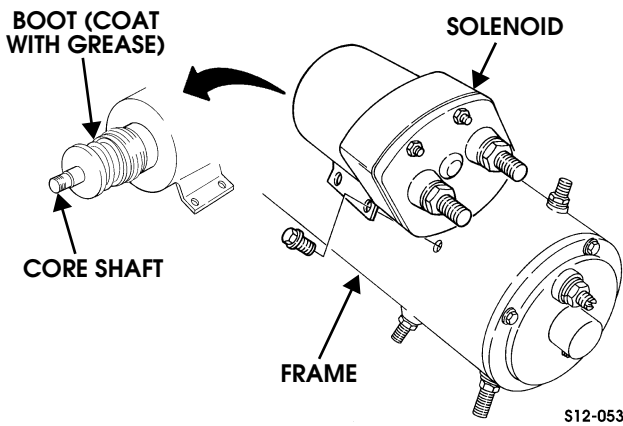

Figure 12-67: Solenoid Boot Installation
25. Coat ribbed area of core shaft boot with lithium grease (Figure 12-67).